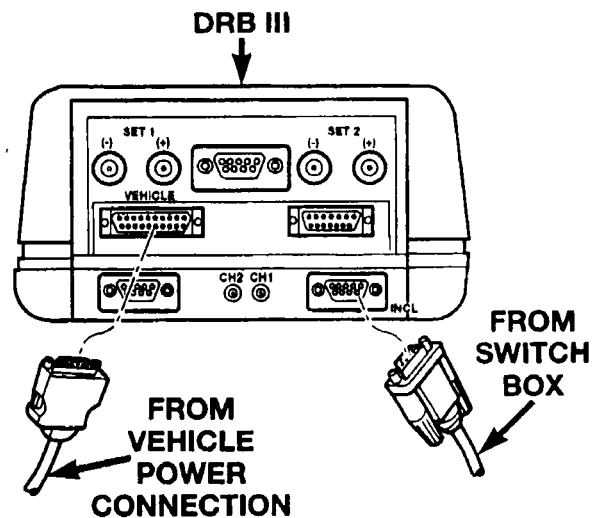

Figure 53
- a. Plug the cable from the switch box (Special Tool #6996) into the PEP module connector on the DRB III marked "INCL" (Figure 53).
- b. Plug the power cable (supplied with the DRB III kit) into the DRB III power connector marked "VEHICLE" (Figure 53).
4. Check the vehicle's rear design height by measuring between the Height Checking Fixture (Special Tool #6914) and the frame rail crossmember (Figure 53). The **rear design height** with added weight should be: